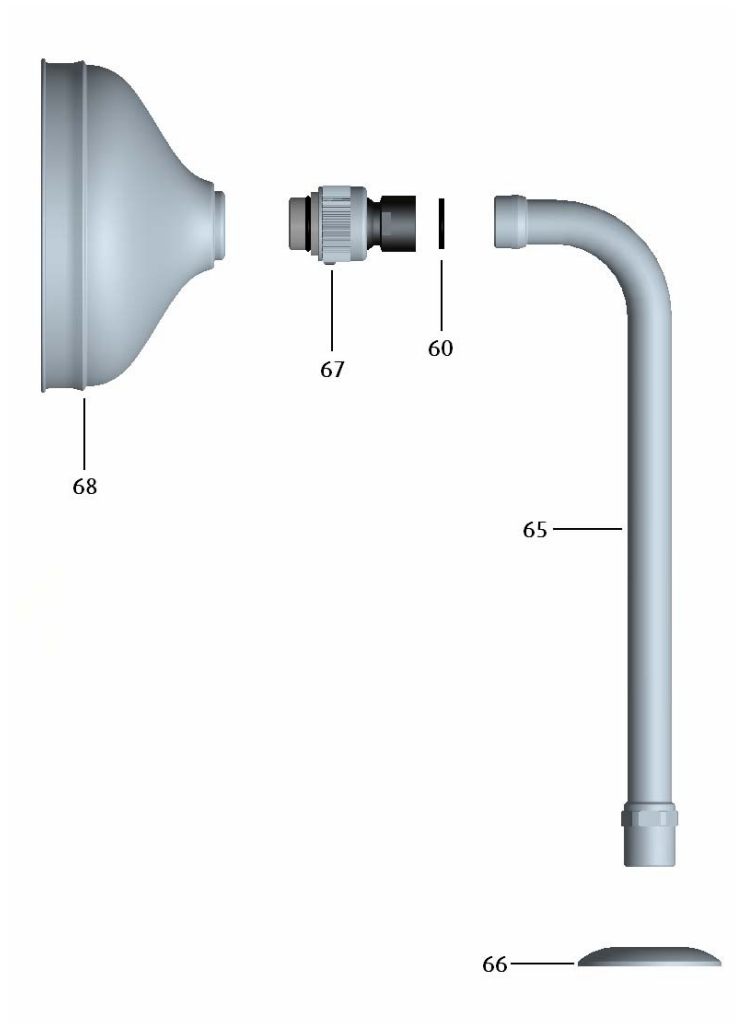

Fig. 2
4.5 Shower Arm Installation (See Fig. 2)